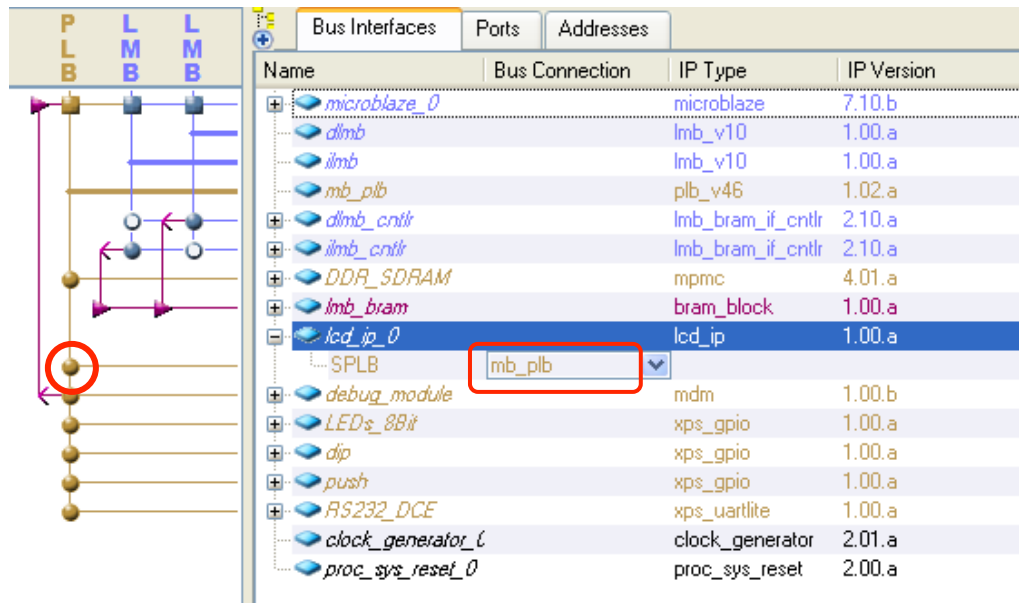

Figure 1-52. Making Bus Connection
- ① In **IP Catalog**, select **lcd_ip** core, drag and drop it in the **System Assembly View** panel
- ② Make sure that the **Bus Interfaces** filter is selected in the System Assembly View and click on the circle in the bus connection diagram to make bus connection (**Figure 1-52**)